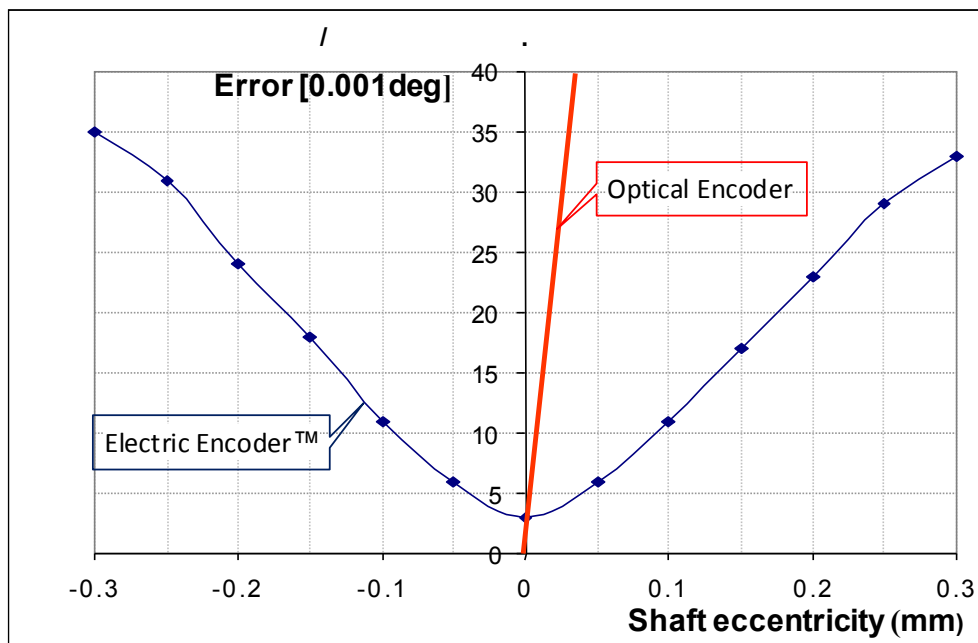

Figure 4.
2.1. Geometrical compensation - each two opposing regions of the encoder react oppositely to tilt, and the **Electric Encoder™** rotor plane translation—shown by white arrows—is also insensitive to axial motion—shown by the red arrow. Thus, it approaches the “ideal” in being sensitive only to rotation, closer than any other encoder is. One practical outcome is that unlike optical encoders with comparable accuracy, no internal ball bearings are necessary, and the rotor can directly mount on the host shaft without flexible shaft coupling or soft stator mounting. This unique floating, hollow shaft results in the lowest possible axial space requirements but also enhances reliability by eliminating the major long-term degradation mechanism. **Figure 4** illustrates the significantly fewer errors induced by rotor eccentricity of the **Electric Encoder™** compared with an optical encoder of the same diameter.